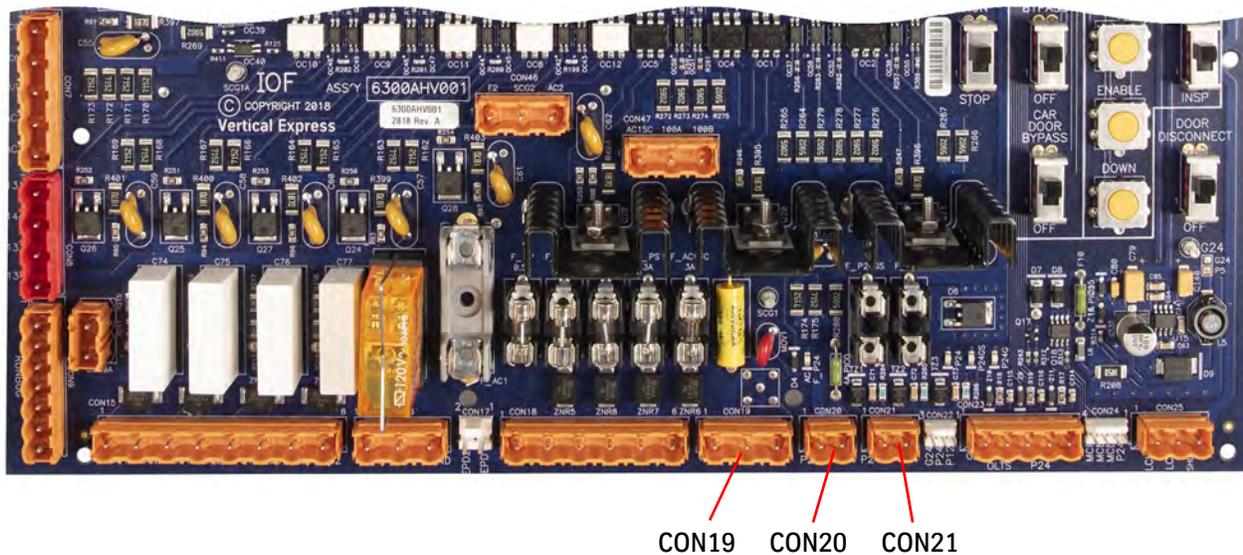

Figure 1 - IOF Card Connectors
3. Verify that CON19, CON20, and CON21 are removed on the IOF Card. See Figure 1.